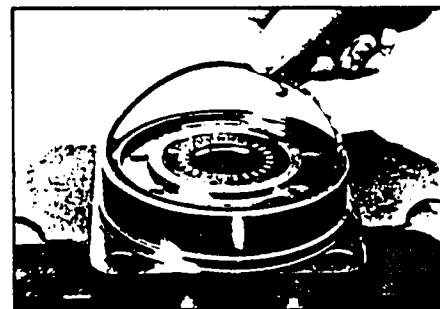

Figure 50
10. Apply a small amount of clean grease to a new seal ring (4) and insert it into the housing (18) seal ring groove. SEE FIGURE 50.